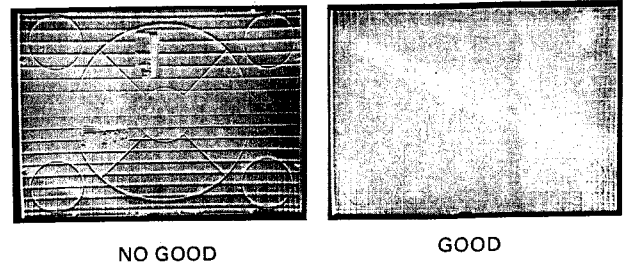

Fig. 5-4-24
- Adjust VR5 (R V-CENTERING) and VR4 (R V-LIN) on the Deflection board, and VR4 (R V-SIZE) on the Deflection VIC board repeatedly so that the R horizontal lines of registration chart coincide with the G horizontal lines. (Fig. 5-4-24)
- o Adjust VR3 (B V-CENTERING) and VR5 (B V-LIN) on the Deflection board and VR2 (B V-SIZE) repeatedly so that the B horizontal lines of registration chart coincide with the G horizontal lines. (Fig. 5-4-24)